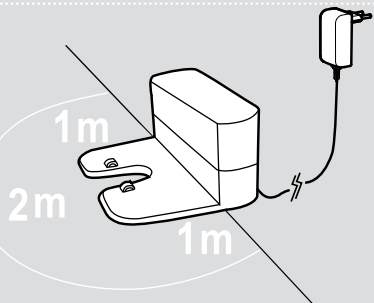

Fig. 2
1. Plug in the mains power adaptor and connect it to the Charger Base. **[Fig. 2]**
4. There should not be any object in the area around the Charger Base for 2 meters in front and 1 meter on each side. **[Fig. 2]**